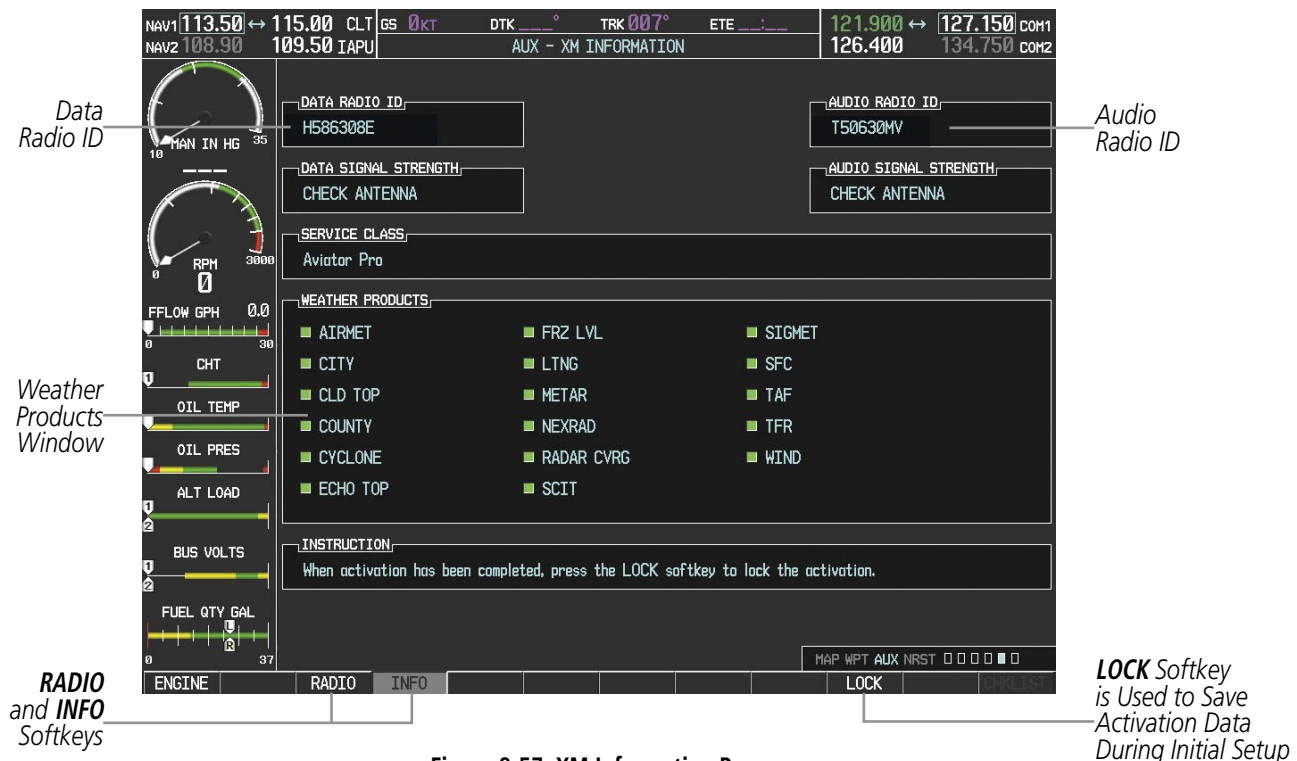

Figure 8-57 XM Information Page
- On the XM Information Page on the MFD (Figure 8-57)